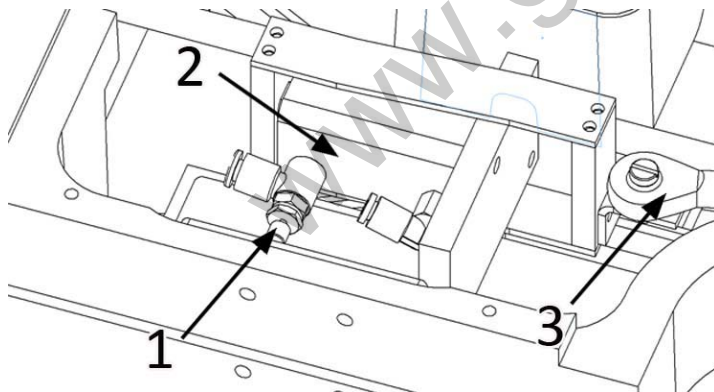

Fig. 39
Increasing or decreasing of the speed of knife is done by the valve (1) on the pneumatic cylinder (2) which is placed under that must be the cover in the baseplate. The rod is connected with pneumatic cylinder by hinge bearing (3), Fig. 39.